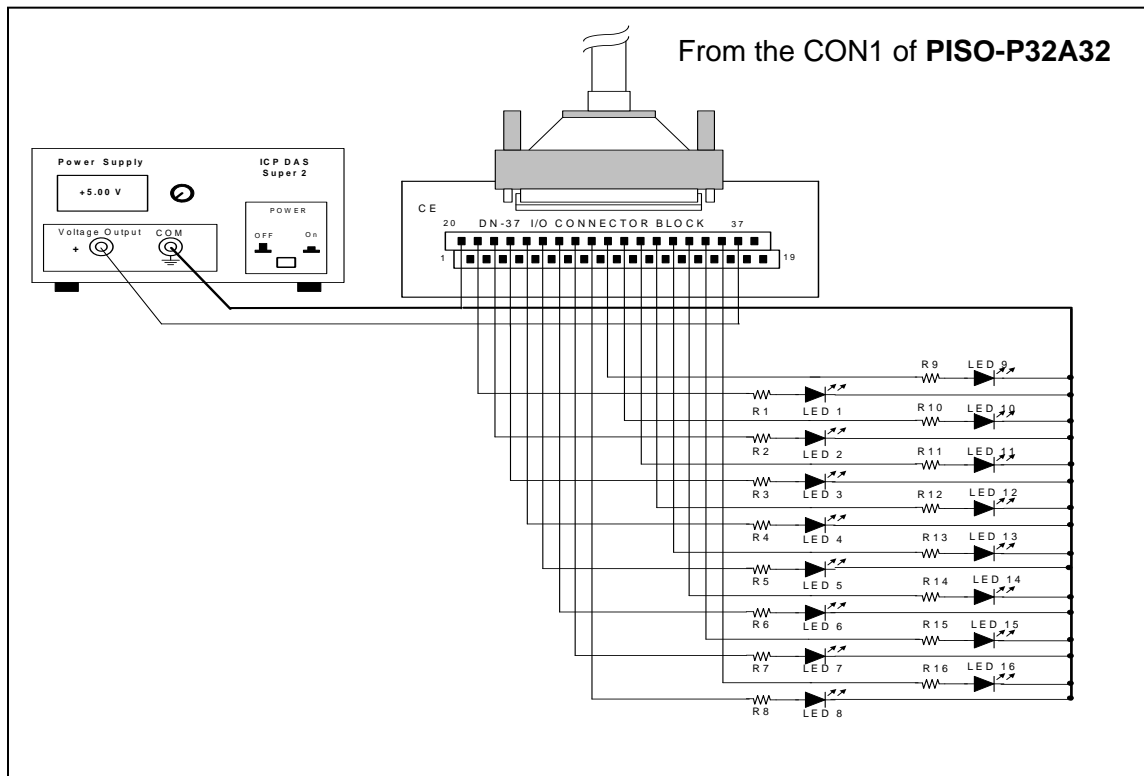

Figure 4-1-3. The circuit diagram of external device 1 for the digital outputs of PISO-P32A32/P32A32-5V
- Figure 4-1-3(PISO-P32A32) shows the circuit diagram of external device 1